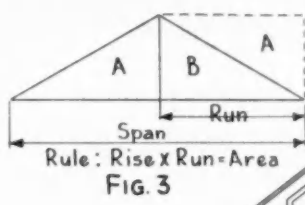

FIG. 3
b. For a gable area: multiply roof rise by one-half the span, (see figure 3). Then multiply this result by a constant selected from the above table. Then add an additional 20% to allow for the waste incurred due to the slope of a roof.
ABOVE: In Figures 3 and 4 are shown method of figuring gable areas and illustration of open cornice and corner boards respectively.
- Figure gable areas by multiplying roof rise by rafter run (see figure 3).